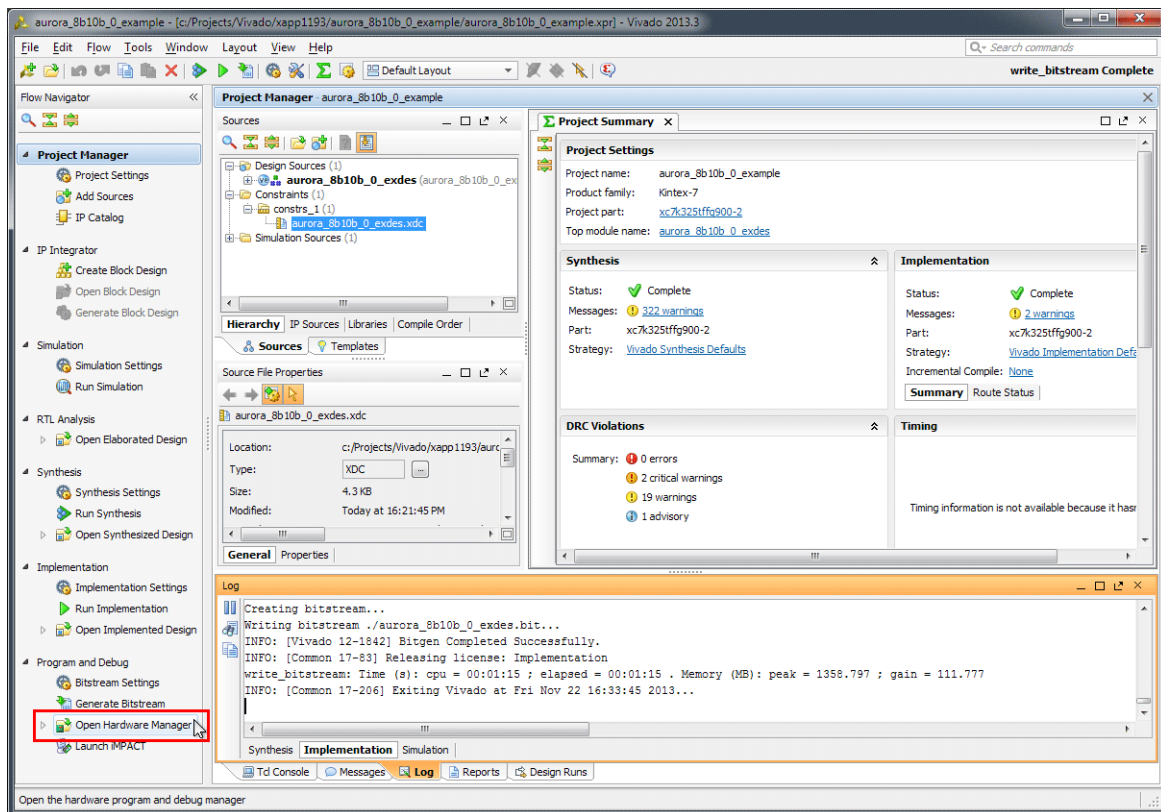

Figure 29: Open Hardware Manager
1. Under Program and Debug in the Project Manager section of the Vivado IDE, click **Open Hardware Manager** (Figure 29).